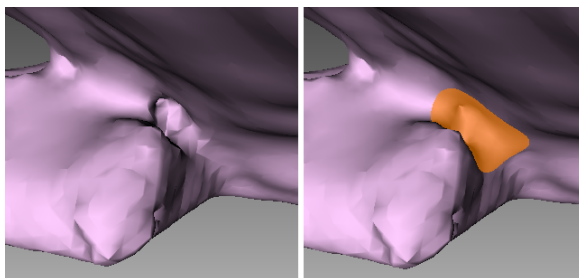

Figure 106: Before smoothing (left) and smoothing out a poorly captured area (right).
6. Hold LMB and paint the surface region in order to smooth it. The tool will smooth the affected areas (see Figure 106, right).